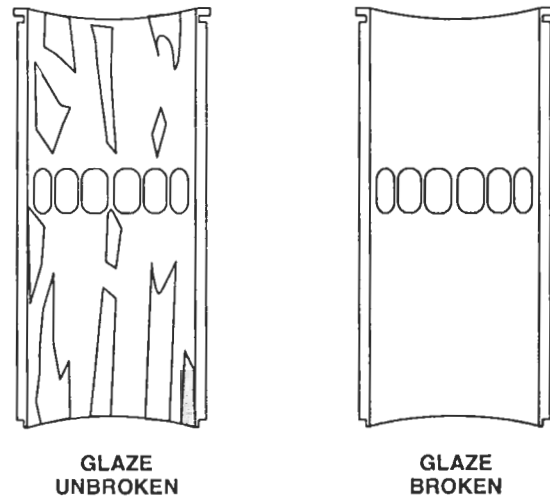

Figure 3. Glazed Cylinder Liner Surface
1. Break the glaze (Figure 3.) due to the rubbing action of the piston rings which results after long periods of operation. Unless this glaze is removed, the time required to seat new piston rings will be lengthened.